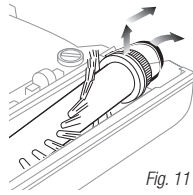

Fig. 11
- 5 Carefully lift and remove the brushbar from the belt. (Fig. 11) To reinsert the brushbar, slide the brush bar into the bushing and then place the belt over the ridges of the brushbar cap. Replace the trap door and lock in place.